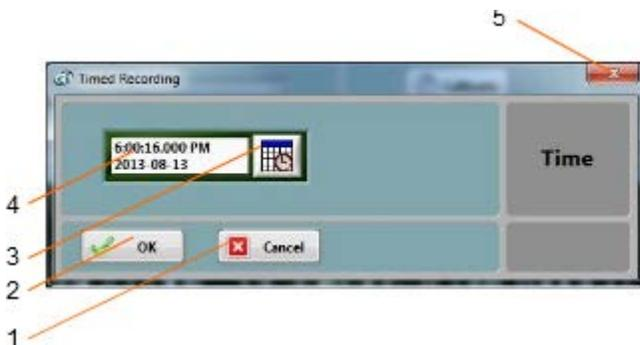

Figure 6 Timer Settings Panel
Either use the direct entry field (Figure 6 (4)), or press the *Calendar View* button (Figure 6 (3)) to set the date and time when the recording must start.